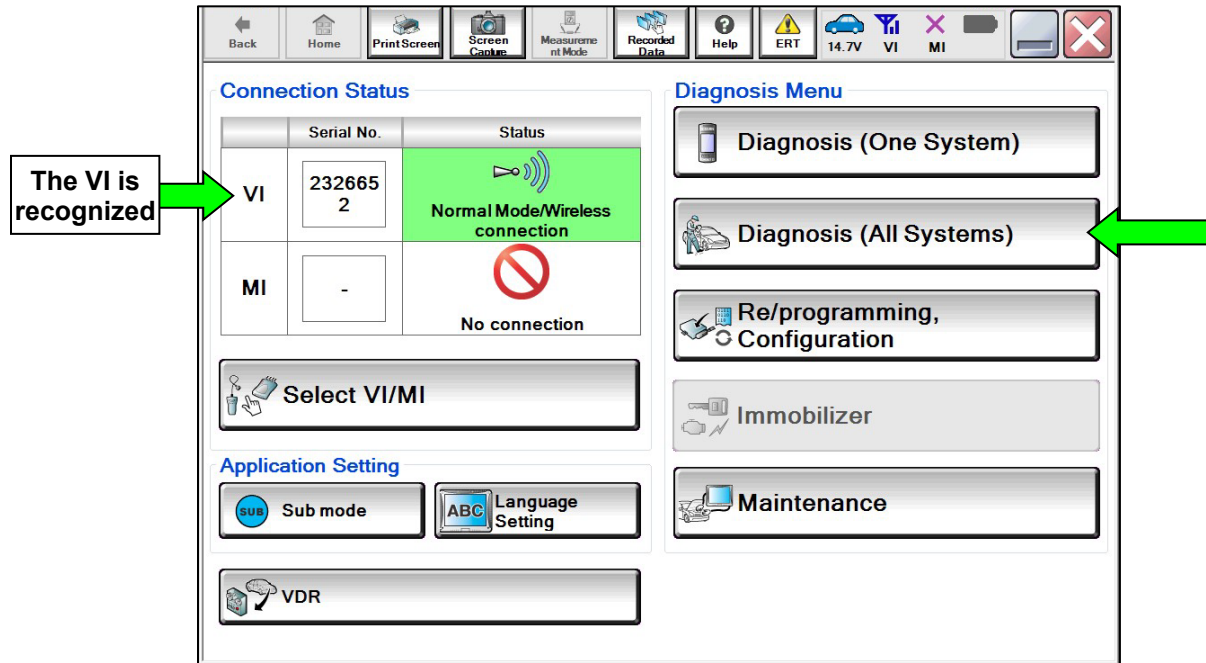

Figure 32
51. Wait for the VI to be recognized (Figure 32).